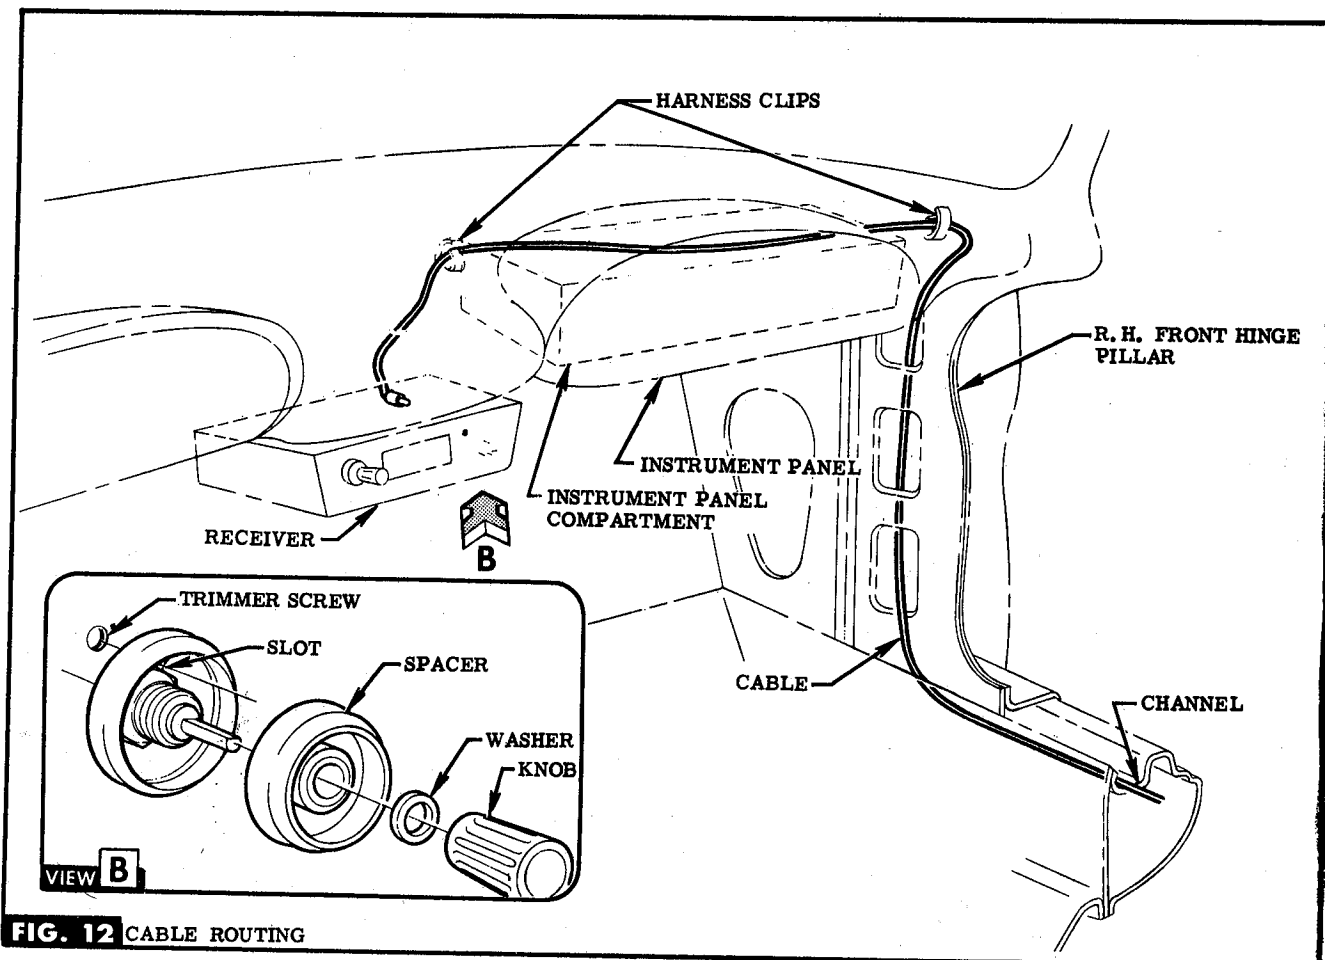

FIG. 12 CABLE ROUTING
STEP 23 REMOVE R. H. KICK PANEL. ROUTE CABLE FORWARD, INSIDE CHANNEL, THEN UP THRU OPENING AT BOTTOM OF R. H. FRONT HINGE PILLAR, BEHIND INSTRUMENT PANEL & OVER INSTRUMENT PANEL COMPARTMENT INTO REAR OF RECEIVER RECEPTACLE. POSITION CABLE IN EXISTING WIRING HARNESS CLIPS. SEE FIG. 12.